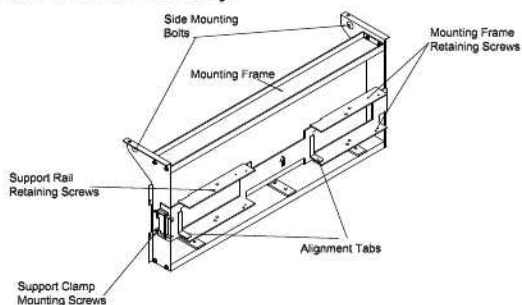
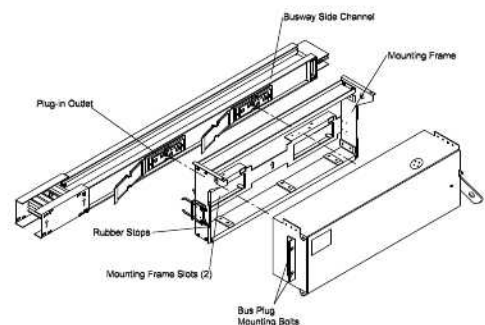

Figure 39. Mounting Frame (Rear View)
Figure 40. Bus Plug with Mounting Frame
11.5.2.1 Remove the support rail retaining screws and the two (2) side mounting bolts (Figure 39) and loosen the four (4) bus plug mounting bolts (Figure 40). Retain the removed screws. Remove mounting frame from bus plug.
11.5.2.2 Loosen the four (4) support clamp mounting screws. Remove the four (4) mounting frame retaining screws from the mounting frame (Figure 39). Retain the removed screws.
11.5.2.4 Align the alignment tab on the back of the mounting frame (Figure 39) with the alignment slots in the busway side channel.
11.5.2.6 Make sure the clamp hooks are over the busway side channel and then tighten the four (4) support clamp mounting screws on the support clamps of the mounting frame. This will engage the clamps behind the busway side channel. Re-install the four (4) mounting frame retaining screws removed earlier. Ensure that the screws are driven fully behind the busway side channel (Figure 40). The mounting frame is now secured to the busway.